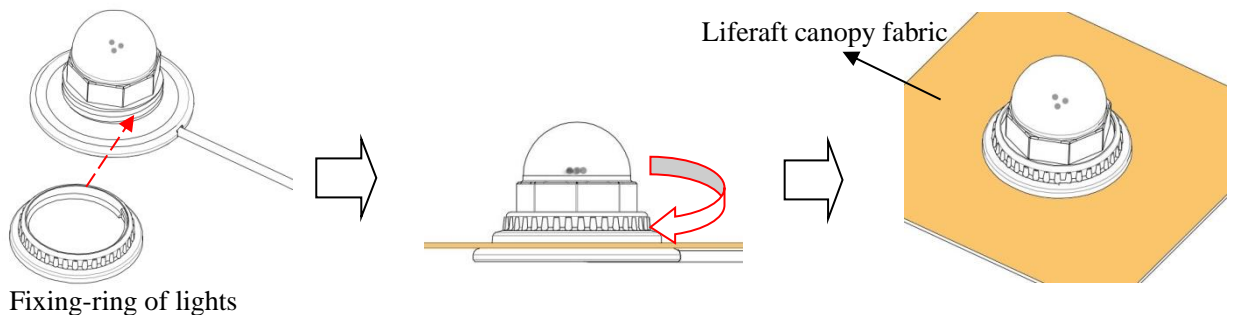

Figure3-3
3.2.3 Unscrew the Fixing-ring from the external light, Make it go through the fabric on the apex of the liferaft canopy (designated place for external light). And screw the fixing-ring tight and firmly to fix the external light as below Figure3-3;
Remark: There is a rubber sealing ring at inner circle of fixing-ring (in Figure3-3) for external light. Its function is to ensure the external light waterproofed. Make sure it was not missing and been placed well during the installation.